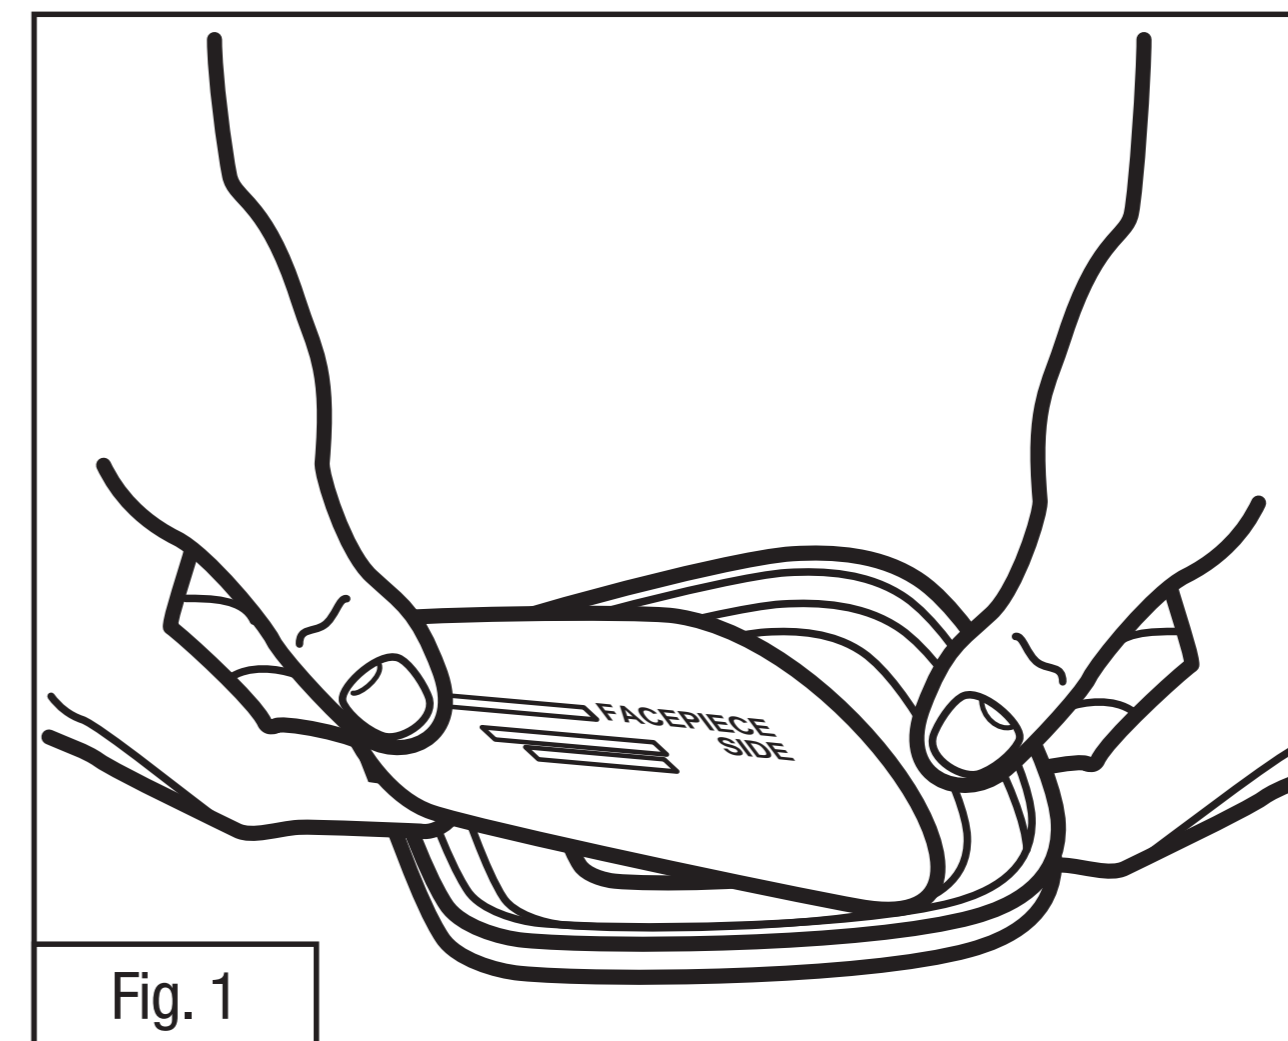

Fig. 1
1. Place the 5P71 (07194) filter into the 501 (07054) filter retainer so the printed side of the filter faces up (Fig. 1).